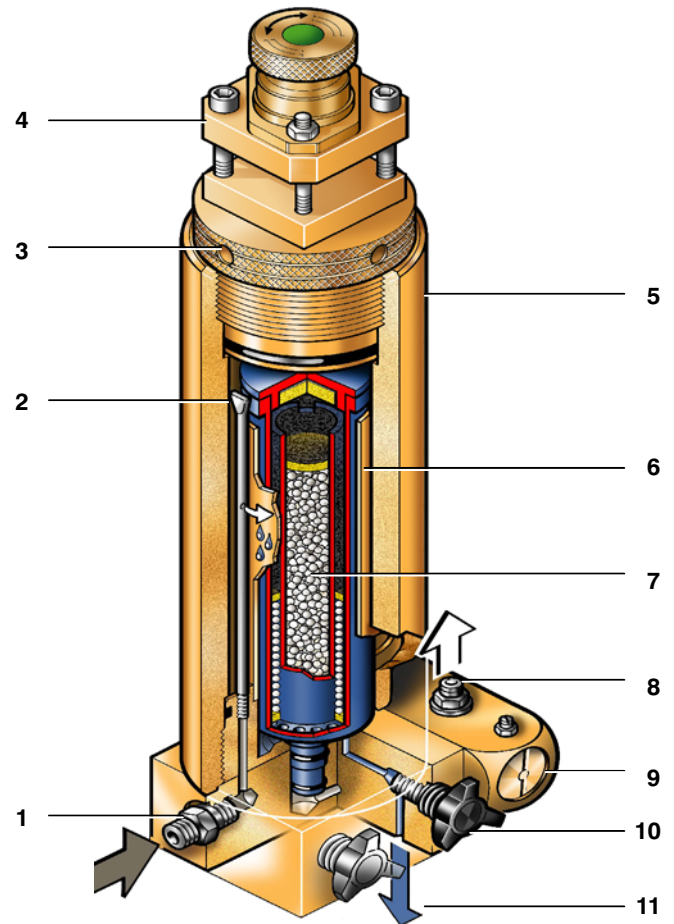

Fig. 1 Filter system P21
Air leaving final stage is cooled in the after-cooler to approx. 10 - 15 °C (18 - 27 °F) above ambient temperature and then enters filter system P21 with **TRIPLEX**® longlife cartridge (Fig. 1). The filter assembly consists of separator and cartridge chamber. In the separator surrounding the cartridge chamber liquid oil and water particles are reliably separated from the compressed medium by a pipe nozzle.
- Unscrew screw joint (3, Fig. 1) on top of the filter.